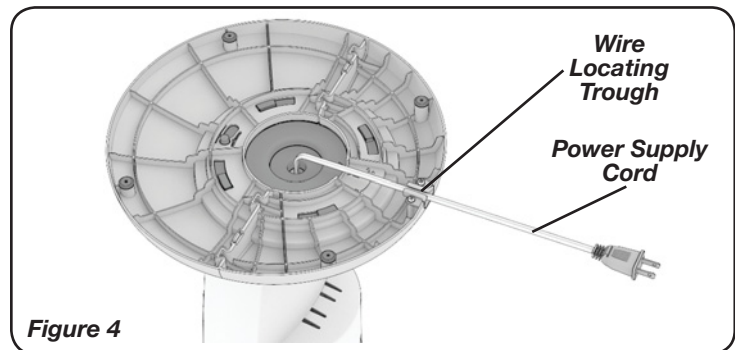

Figure 4
5. Gently pull any excess slack of the *Power Supply Cord* and place it in the *Wire Locating Trough*. (Figure 4)